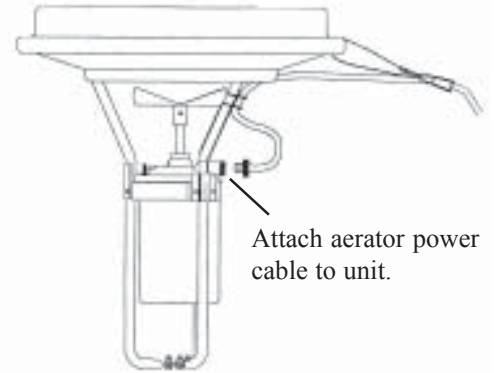

Figure 1
A. Attach your Otterbine power cable to the aerator. Align the pigtail connector on the cable up to the pin configuration on the bulkhead on the aerator. **HAND TIGHTEN** the coupling nut onto the bulkhead connector. **DO NOT OVER TIGHTEN -- OVER TIGHTENING WILL CAUSE A FRACTURE IN THE CONNECTOR AND COULD LEAD TO A SHORT CIRCUIT--**see Figure 1.